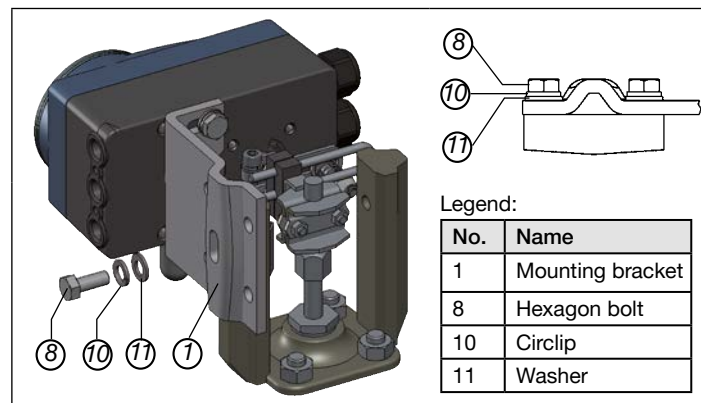

Fig. 9: Attach Type 8792/8793 with mounting bracket; for actuators with cast frame
- Attach mounting bracket to the cast frame with one or more hexagon bolts ⑧, washers ⑪ and circlips ⑩ (see “Fig. 9”).